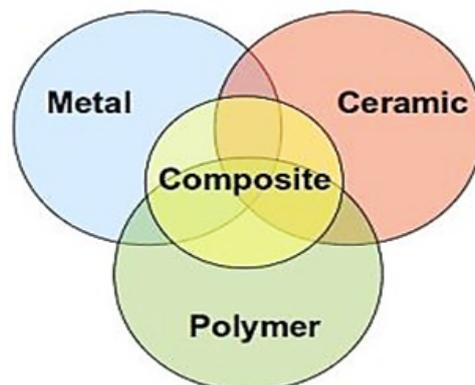

Figure 1.2 : Three basic classification of solid materials.
- Metals, ceramics, and polymers have been conveniently divided into three fundamental classes, as illustrated in **Figure 1.2**.